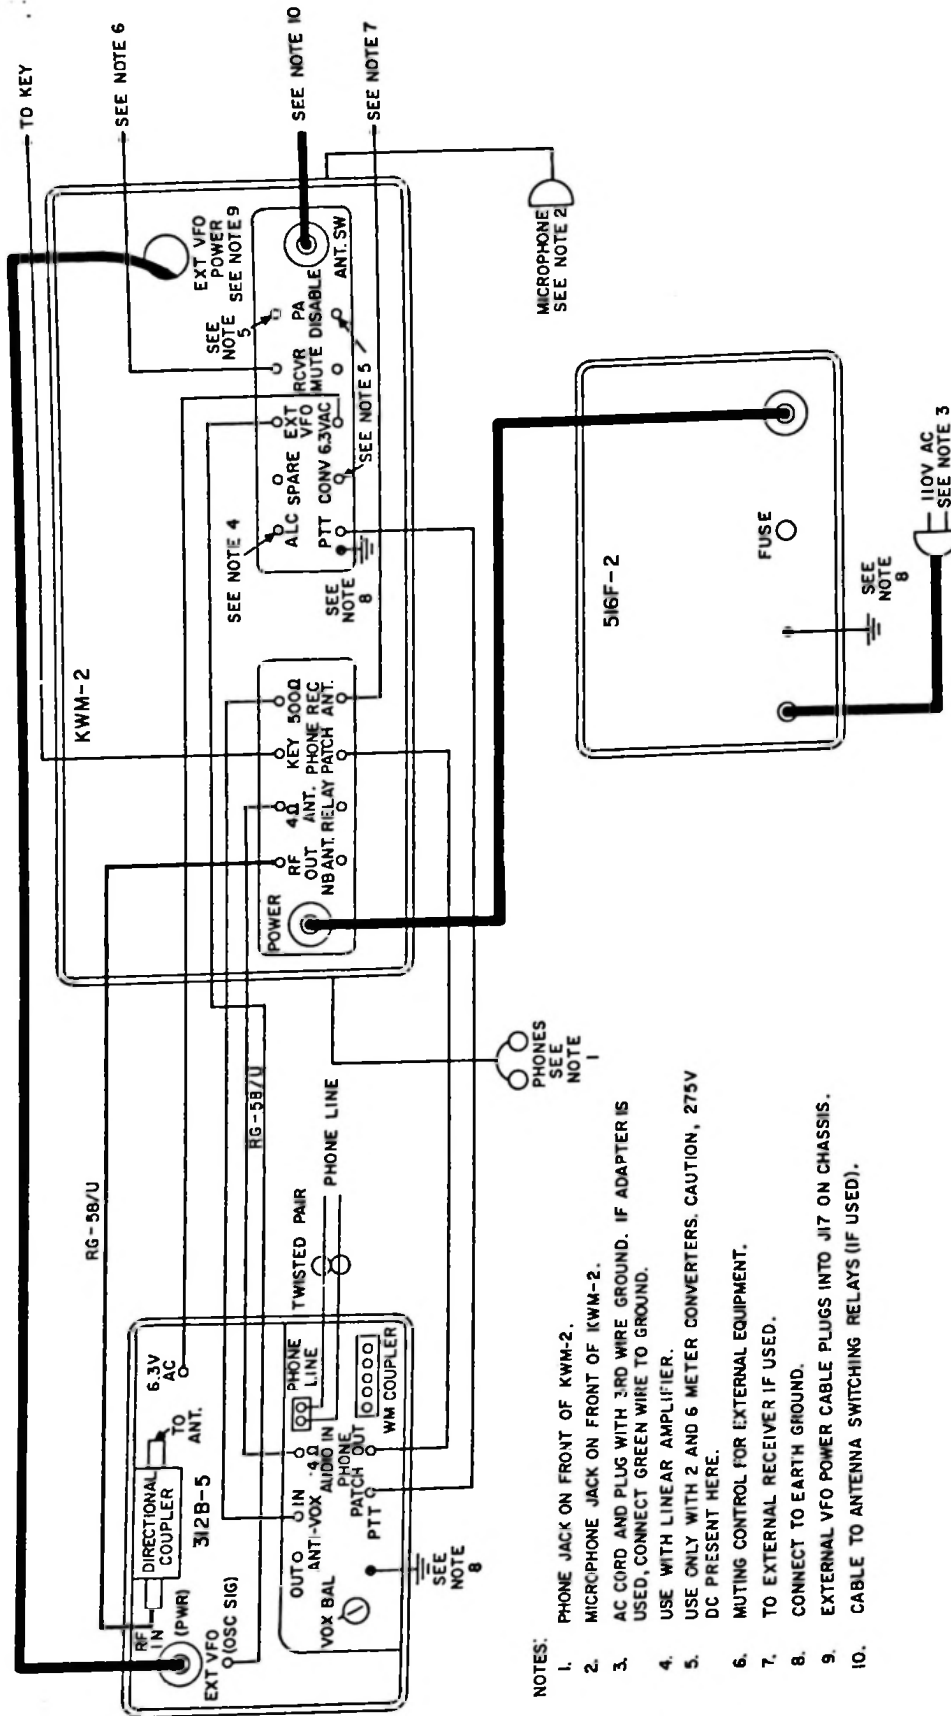
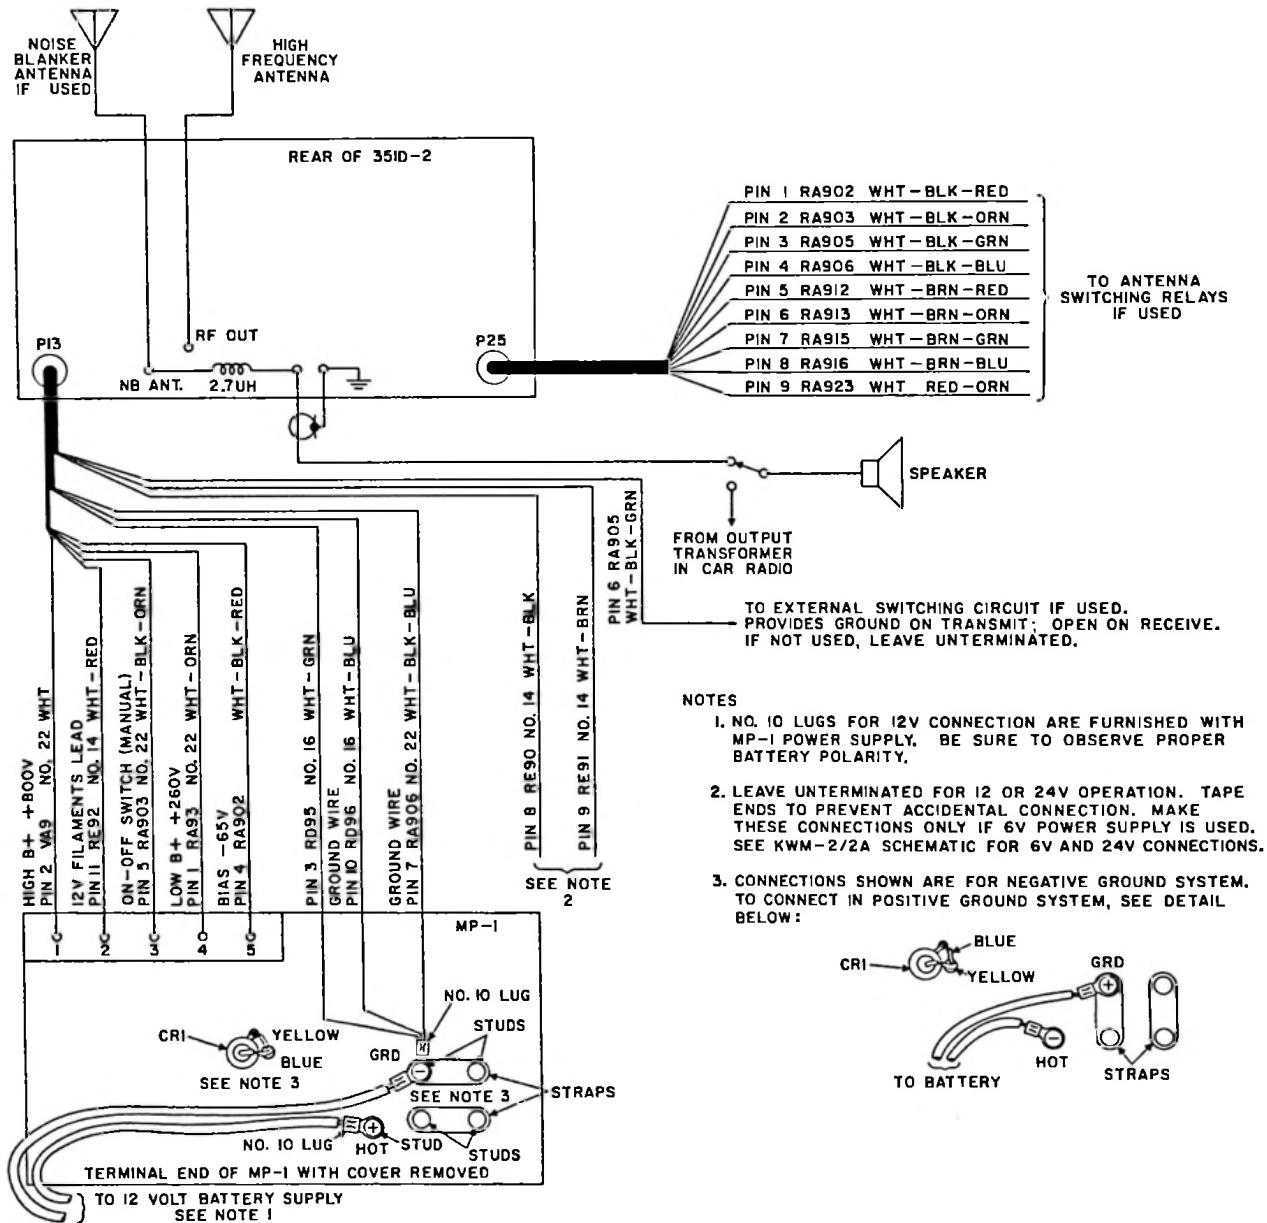

Figure 1-1. Fixed Station Interconnections
Figure 1-4. Mobile Station Interconnections
For fixed station installation, refer to figure 1-1 or 1-3. For mobile installation, refer to figure 1-4. Traveling station interconnections are shown in figure 1-2.
Connect associated equipment to the KWM-2 or KWM-2A as shown in figure 1-1 or 1-3. ANT. SW connector J25 supplies band information in the form of grounds for each 3.5-, 7-, 14-, 21-, and 28-mc operating band. This system provides
c. Determine necessary length of power cable (furnished with 351D-2 Mobile Mount) to connect the MP-1 to the KWM-2/2A, and cut to required length. Connect power supply, speaker, and microphone as shown in figure 1-4.
Before making connections to the automobile electrical system, make sure the primary circuits in the MP-1 are connected for proper ground polarity. Correct connections for either positive or negative ground systems are shown in figure 1-4.
e. No mobile speaker is supplied. If desired, the speaker leads may be connected in parallel with the car radio voice coil terminals. If the car radio has a transistor output stage, connect the terminals of the car speaker as shown in figure 1-4. Break voice coil lead, and install a switch for transfer of speaker from car radio to KWM-2/2A. If installation is in boat or plane, use any good 4-ohm speaker and mount as desired.
(1) Use resistor-type spark plugs.
(2) Install coaxial bypass capacitors at ignition coil, generator, and voltage-regulator leads. Use bracket-mounted coaxial capacitors in the battery and generator leads to the voltage regulator and a 0.005-uf (or smaller) disc ceramic or mica capacitor from the field lead to ground. DO NOT use larger than 0.005-uf capacitor here unless a 4-ohm resistor is placed in series with it.
(3) If capacitor bypasses are not satisfactory, remove them, and use chokes in series with the leads from field and armature terminals of generator. Place these chokes as close to the voltage regulator as possible.
(4) For the field lead choke, wind 12 turns of no. 18 wire on a 1/4-inch diameter powdered-iron core. For the armature lead, wind 12 turns of no. 14 or larger wire on 1/4-inch diameter powdered-iron core.
(5) Ground the rear end of the exhaust pipe to the car body with copper braid, using a radiator hose clamp to secure the braid to the tailpipe. General information concerning noise suppression is available in current handbooks.